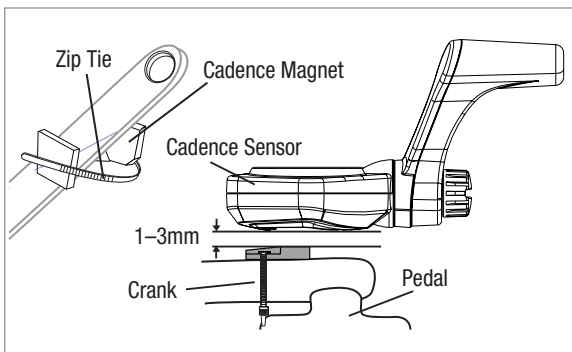

Figure 6
2. Position the larger part of the sensor close enough to the crank arm that the required distance between it and the crank arm magnet is achieved (fig. 6).